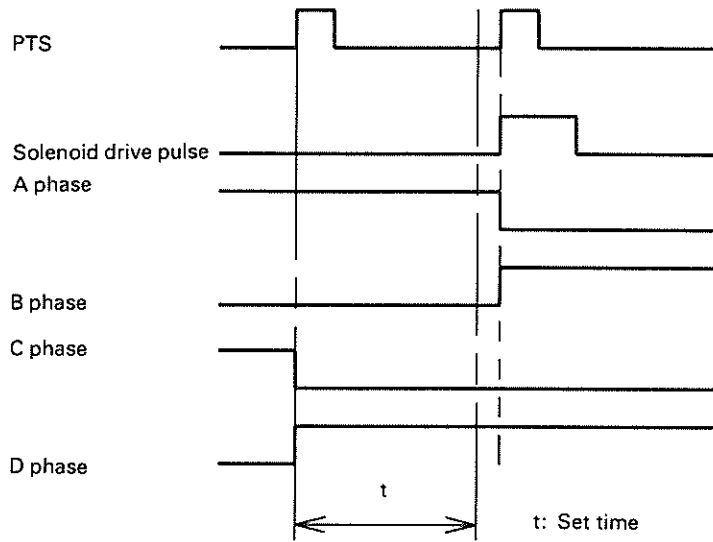

Fig. 2-26. Carriage Speed (Too Slow)
2.6.4.4 Speed Comparison (Fig. 2-26 and 2-27)